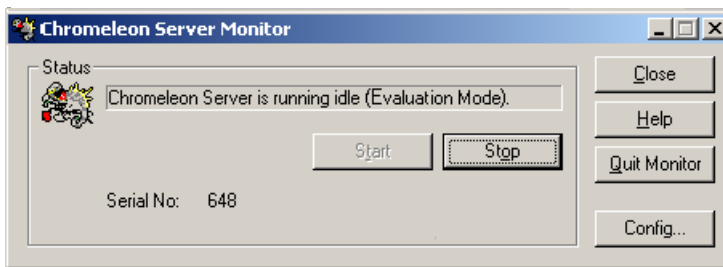

Figure B-6. Server Evaluation Mode
- If “Chromeleon Server is running idle (Evaluation Mode)” is displayed (see Figure B-6), the license Key Code has not yet been entered. If this is the case, go on to Step 6.